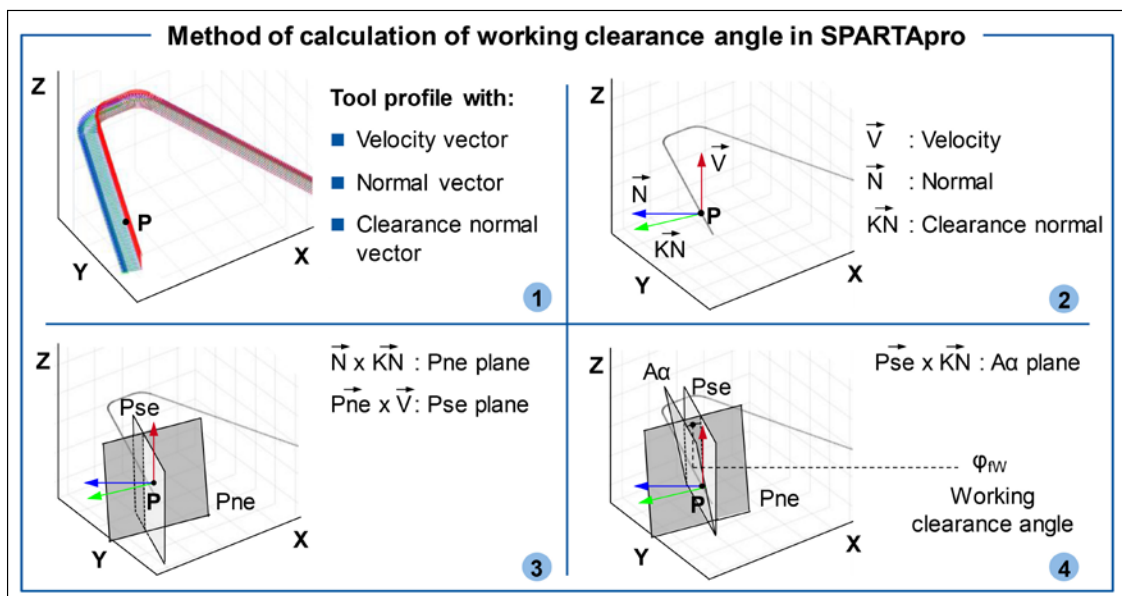

Figure 11 Calculation method of the working clearance angle in *SPARTApro*.
**working angles.** The working angles occurring during the process through the variable velocity components along the cutting edge and the rotation angles of the hob can only be reasonably calculated by means of computer support. *SPARTApro* was further developed in order to calculate the working angles along the cutting edge. In the software, the cutting edge is defined by individual points and the number of these points is specified in the *SPARTApro* interface. For each point at the cutting edge, the resultant velocity vector  $V$ , the normal vector  $N$  and the clearance normal vector  $KN$  are calculated (Fig. 11). The velocity vector gives the information regarding the direction of the motion of the point. The normal vector is localized perpendicular to the cutting edge, in the plane of the rake surface. The clearance normal vector is perpendicular to the clearance surface. From the cross product of the normal vector and the clearance normal vector, the  $Pne$  plane is calculated. The  $Pne$  plane is the plane where the working clearance angle is measured. The vector  $Pne$  is perpendicular to the  $Pne$  plane, in the direction of the cutting edge. The cross product between  $Pne$  vector and velocity vector generates a plane called  $Pse$ . The  $Pse$  plane is tangential to the cutting edge, in the direction of the resultant velocity. With the cross product between  $Pse$  vector, the vector perpendicular to the  $Pse$  plane, and the clearance normal vector, the  $A\alpha$  plane is generated. The plane  $A\alpha$  and the clearance surface